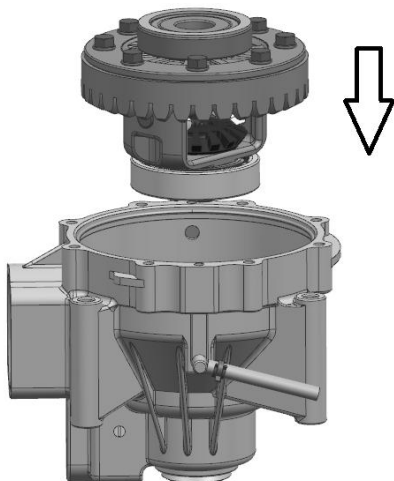

**Fig 17**
**8.**Install the differential assembly into the carrier housing. →Fig 17